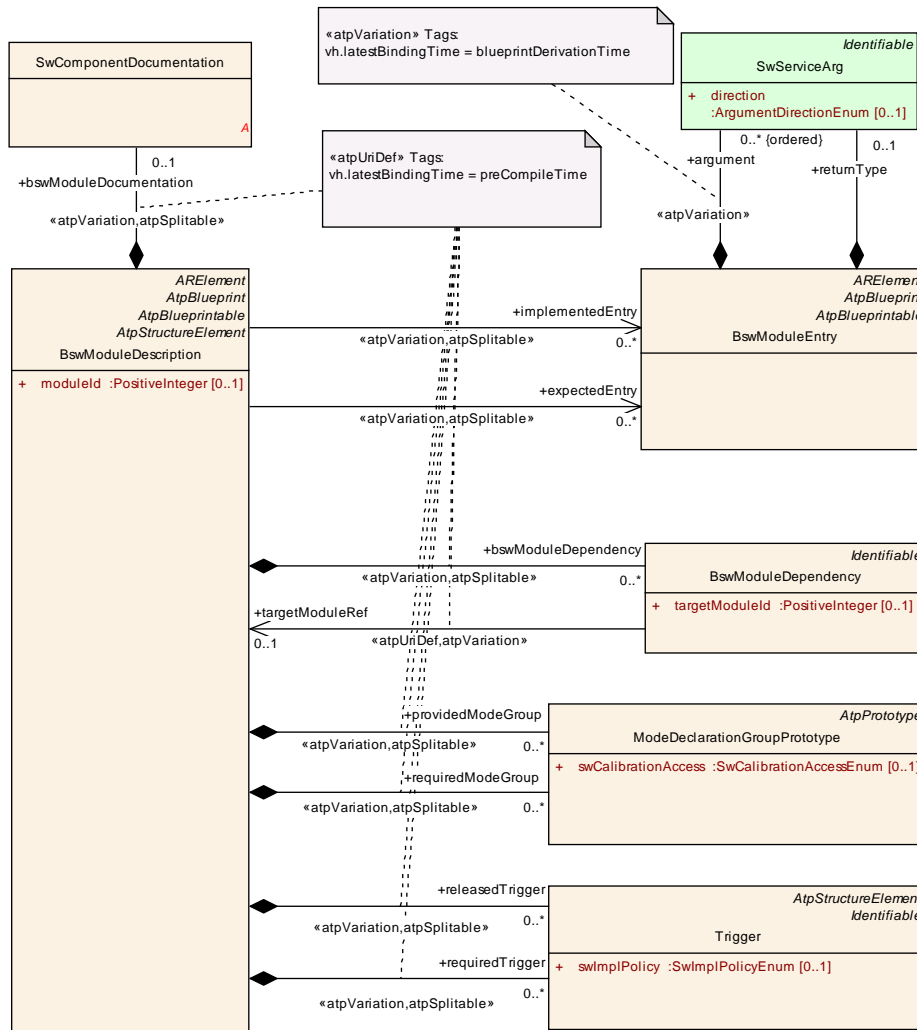

Figure 11.1: Variation points under **BswModuleDescription**, Part 1
**[TPS\_BSWMDT\_04063] BSW Interface Variation Points** [The variation points in the scope of `BswModuleDescription` with `latestBindingTime = preCompileTime` allow to declare variable sets of optional documentation, communication interfaces, dependencies, triggers and mode groups as part of one BSW module description, see figures 11.1 and 11.2. Further variation points in this hierarchy with can be bound at compile-time are not allowed in order to keep the meta-model and the resulting M1 models maintainable. ] (RS\\_BSWMD\\_00049)
**[TPS\_BSWMDT\_04090] Variation Points for `BswModuleEntry` arguments** [It is possible to declare a `BswModuleEntry.argument` as a variation point but its binding time must not be later than `blueprintDerivationTime`, see figure 11.1 ] (RS\\_BSWMD\\_00049)